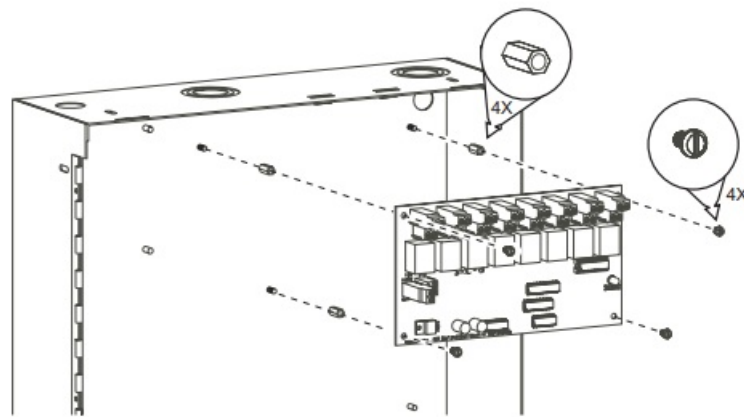

Figure 2
In a New SXL-EX System (Refer to Figure 2)
1. Insert the four 6-32 x 1/2 standoffs over the four studs in the upper right-hand corner of the SXL-EX enclosure as shown in Figure 2.